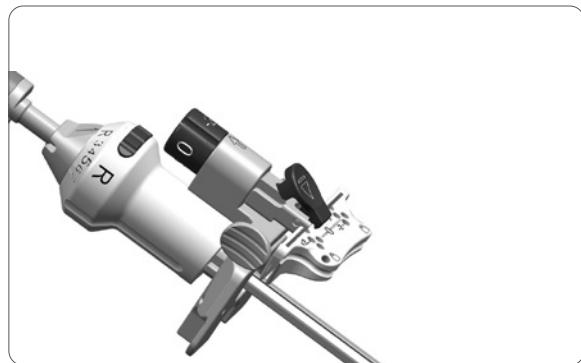

Figure 4
3. Attach the Distal Femoral Cutting block onto the Bridge. Positioning the block and the dial on the adjustable bridge at the primary ("0") resection level will ensure the cut will equal the distal thickness of the femoral prosthesis (**Figure 4**).